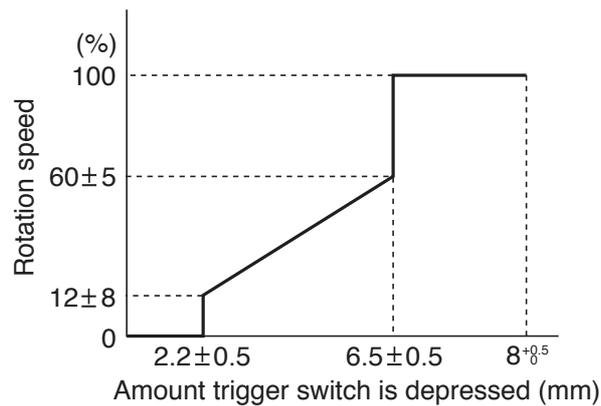

Fig. 4
Spindle rotation speed of the Models DS 12DVF3 and DS 9DVF3 can be controlled by simply varying the amount by which the trigger switch is depressed. The relationship between the amount the trigger switch is depressed (in millimeters) and the rotation speed is illustrated in Fig. 4.
**NOTE: The gradient and values illustrated in Fig. 4 are intended for reference only, and will vary slightly due to differences in the discharge condition of the battery, the ambient temperature, and individual speed-control element accuracy.**